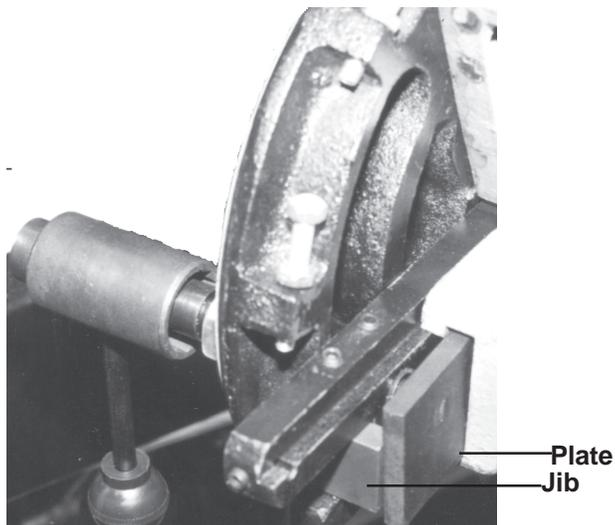

Figure 7
Step 2) Flip the square jib so that its end sits against the flat part of the Plate (18)-see Figure 7.